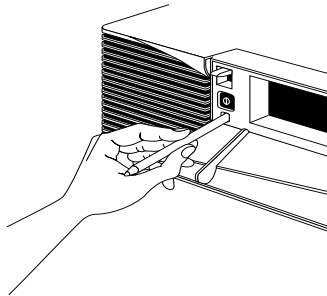

Figure 7-9 Pressing the Reset Button
1. If the system is malfunctioning and you cannot communicate with it using the mouse, or keyboard, or over the network, press the **Reset** button located behind the front door, as shown in Figure 7-9.